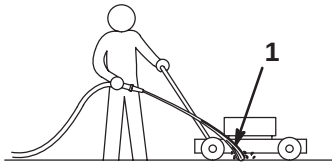

Figure 9
4. Hold the running water hose at handle level and direct the water flow on the ground just in front of the **rear right wheel** (Fig. 9).